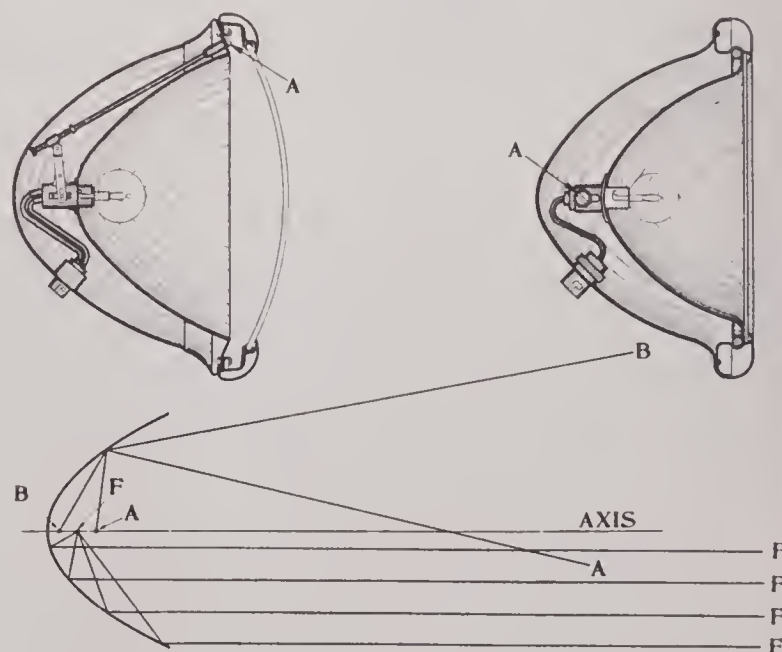

FIG. 318
The lower illustration in Fig. 318 shows a section through a parabolic reflector. A straight line drawn through the center of the lens and the apex of the reflector is called the axis of the reflector.
The two upper illustrations, Fig. 318, show two common points at (A) where the lamp focusing adjustments are located. On some cars, as the Ford and Overland "4," a small screw is located on the outside of the lamp housing just above the apex. Turning the screw at this point moves the lamp along the axis of the reflector.